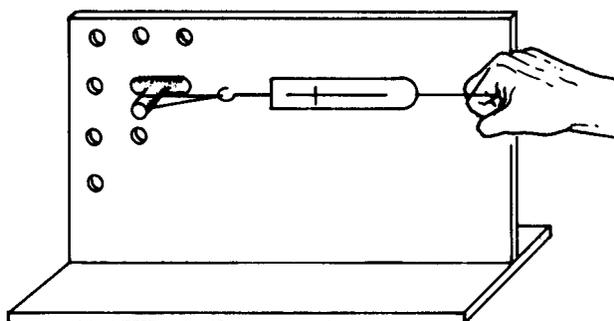

Figure 5-13
5. Place one end of the same rubber band used in Procedure 2 over a rod attached to the pegboard support. Hook a spring scale to the other end of the rubber band (Fig. 5-13).